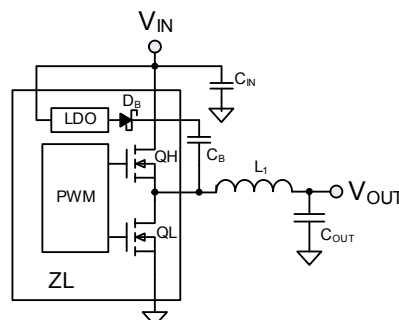

FIGURE 10. SYNCHRONOUS BUCK CONVERTER
Figure 10 illustrates the basic synchronous buck converter topology showing the primary power train components. This converter is also called a step-down converter, as the output voltage must always be lower than the input voltage.
The gate drive voltage for the high-side MOSFET driver is generated by a floating bootstrap capacitor, C_B (see Figure 10). When the lower MOSFET (QL) is turned on, the SW node is pulled to ground and the capacitor is charged from the internal VR bias regulator through diode D_B. When QL turns off and the upper MOSFET (QH) turns on, the SW node is pulled up to VDD5 and the voltage on the bootstrap capacitor is boosted approximately 6.5V above VDD5 to provide the necessary voltage to power the high-side driver. An internal Schottky diode is used with C_B to help maximize the high-side drive supply voltage.